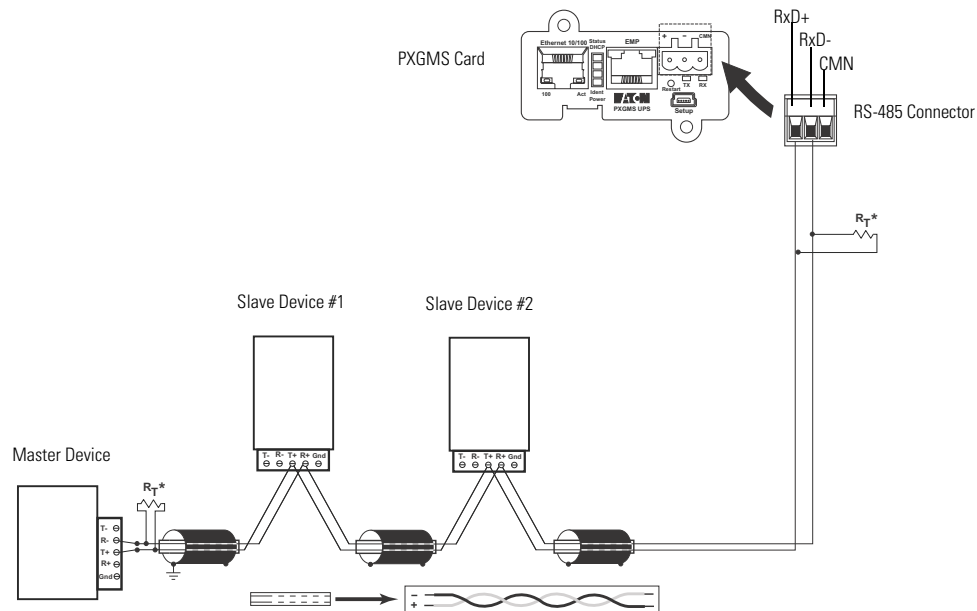

Figure 43. Two-wire RS-485 Modbus Network
i **NOTE 2 RT*** - If the PXGMS UPS Card is the last device that is being attached to the RS-485 network, a 120 ohm resistor should be attached to the RxD+ and RxD- terminals of the 3-pin terminal plug (see Figure 43).
4. Re-seat the plug into the 3-pin terminal connector on the PXGMS UPS Card (see Figure 43).